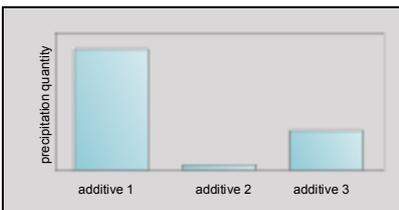

Fig. 18: Influence of fountain solution composition on formation of calcium salts
- prevention of insoluble calcium salts (see figure 18)